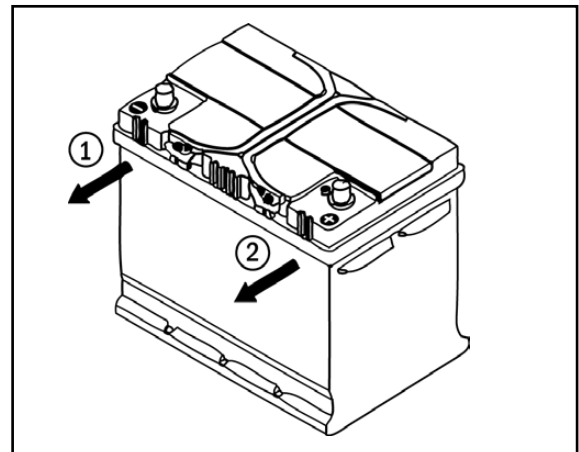

Fig. 1: Disconnecting the battery
- When removing the battery, disconnect the NEGATIVE terminal first and then the POSITIVE terminal (see Fig. 1).